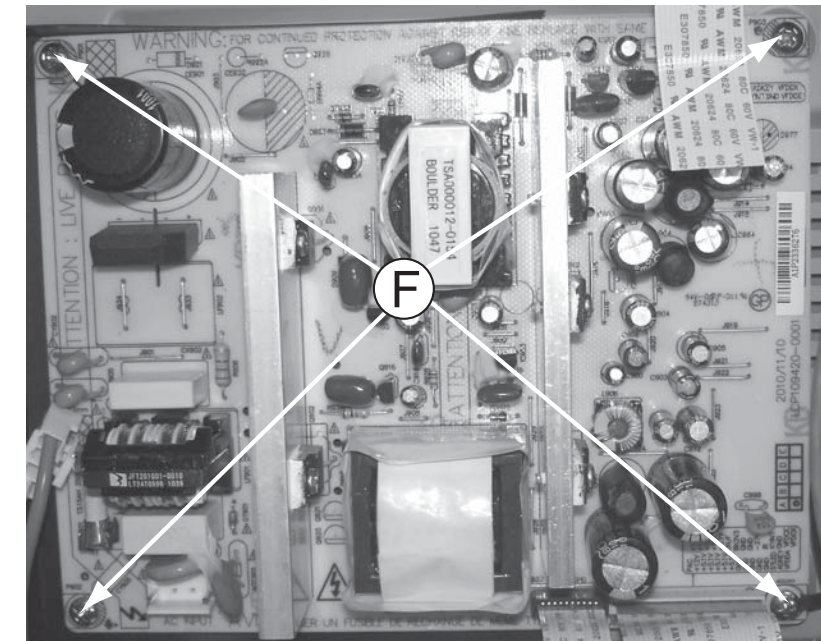

Figure 8
- 1) Loosen 4 screws "F" on the top of power board as shown in figure 8.